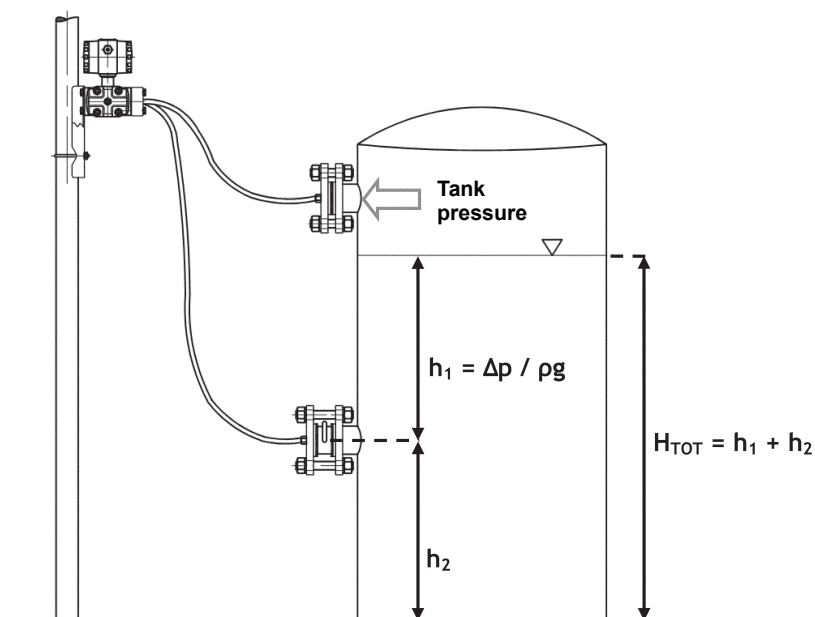

Fig. 6 - Level measurements in closed vessels with dry and clean vapours
- Referring to **Fig. 6**: the transmitter can be mounted above the process connections only when in service with dry and clean gas vapors without seal liquid.